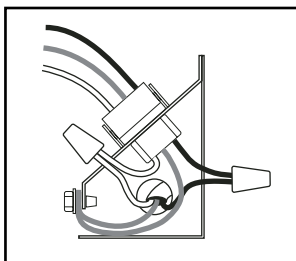

Fig. 12
1. Remove wiring cover. Then wire unit to the correct installation type, shown in Fig. 12, using proper wire connectors.